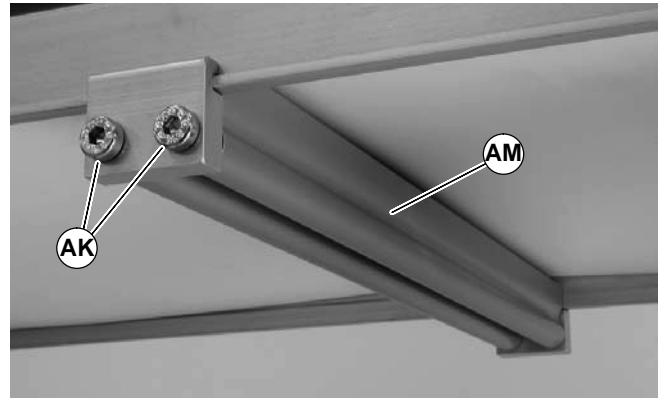

Figure 15
3. Install roller assembly as shown (AM of Figure 15). Tighten screws (AK) to 60 in-lb (7 Nm).